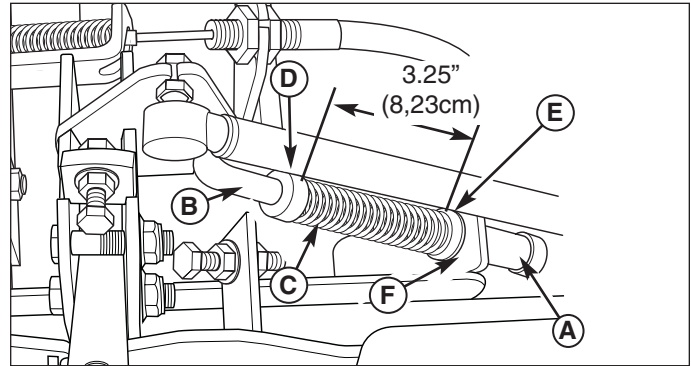

Figure 30. Neutral Return Spring Adjustment
3. Move the ground speed control levers out towards the neutral position. If the levers do not align with the notches in the neutral lock plate, it is necessary to adjust the neutral return rod (B, Figure 30).
2. Measure the length of the neutral return spring (C, Figure 30) it should be set at 3.25" (8,23cm). If the spring does not measure 3.25" (8,23cm) loosen the front set collar (D) and the rear set collar (A), then move the front set collar forward or back on the neutral return rod (B) until the spring length equals 3.25" (8,23cm). Retighten the front set collar.
3. Make sure that the neutral return bushing (E) is seated correctly in the spring stop plate (F).